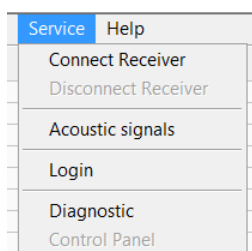

Fig. 4
1. After having connected it to the PC, select **Connect Receiver** from the **Service** menu (Fig. 4).